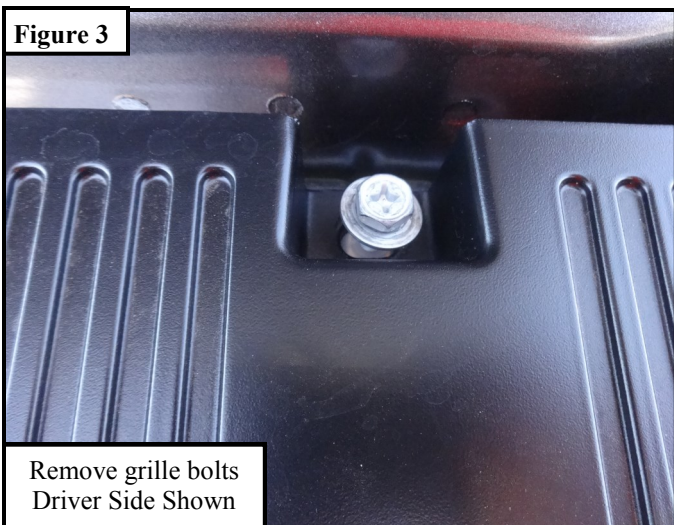

Figure 3
6. Open the hood and remove the four upper grille bolts with the 10mm socket and also remove the two outer christmas tree clips. FIGURES 3 & 4 Remove the grille by lifting up on the top and pulling away from the vehicle. The lower portion of the grille is held on by two clips that can be released by pushing down on the grille.